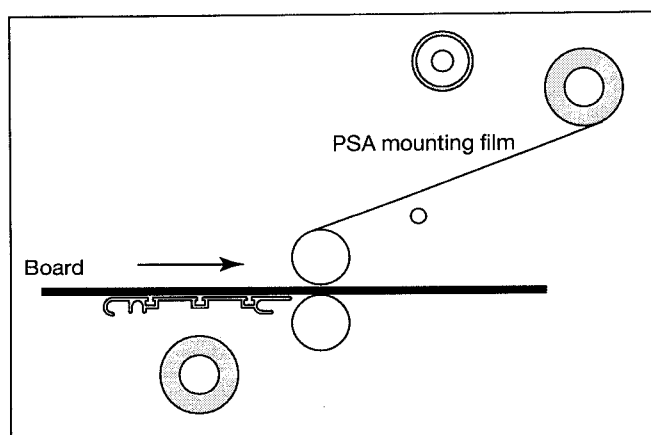

Fig. 6-19. Laminator Ready for Pre-treating Boards.
1. Load the laminator as shown in Fig 6-19.